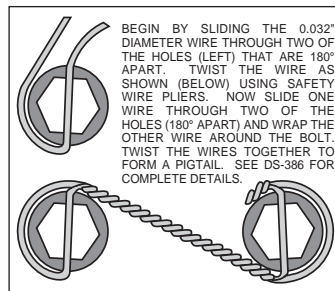

Figure 3. Safety Wire Diagram
- Orient the rotor (6) and the hat (7) as shown in Figure 1 and Photo 2. Attach rotor to hat using bolts (9) and washers (8). Using an alternating sequence, apply red *Loctite*[®] 271 to the threads, and torque to 155 **in-lbs**. For an added measure of security, the bolts may be safety wired using standard 0.032 inch diameter stainless steel safety wire as shown in Figure 3. Please refer to Wilwood's data sheet DS-386 (available at www.wilwood.com/Pdf/DataSheets/ds386.pdf) for complete safety wire installation instructions.